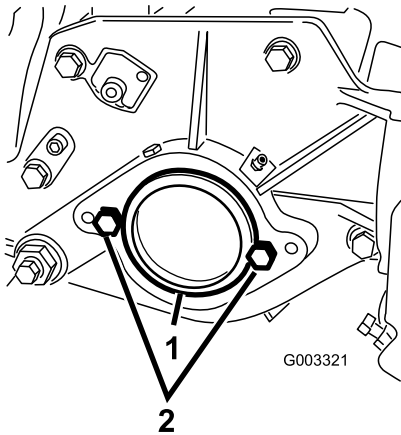

Figure 7
2. On right end of cutting unit, remove the plastic plug from the bearing housing (Figure 7).
3. Remove the 2 bolts from the right side plate (Figure 7).
2. Bolts (2)
5. Loosely install the 2 reel-motor mounting bolts to the left plate of the cutting unit (Figure 7).